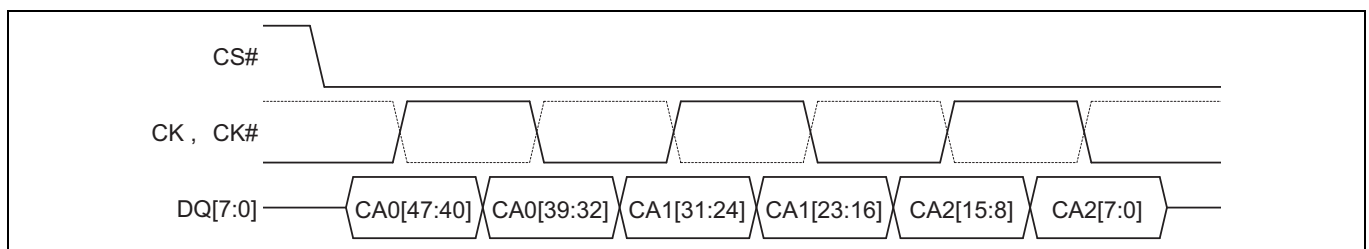

Figure 6 Command-address (CA) sequence^[6, 7, 8, 9]
6. **Figure 6** shows the initial three clock cycles of all transactions on the HYPERBUS™.